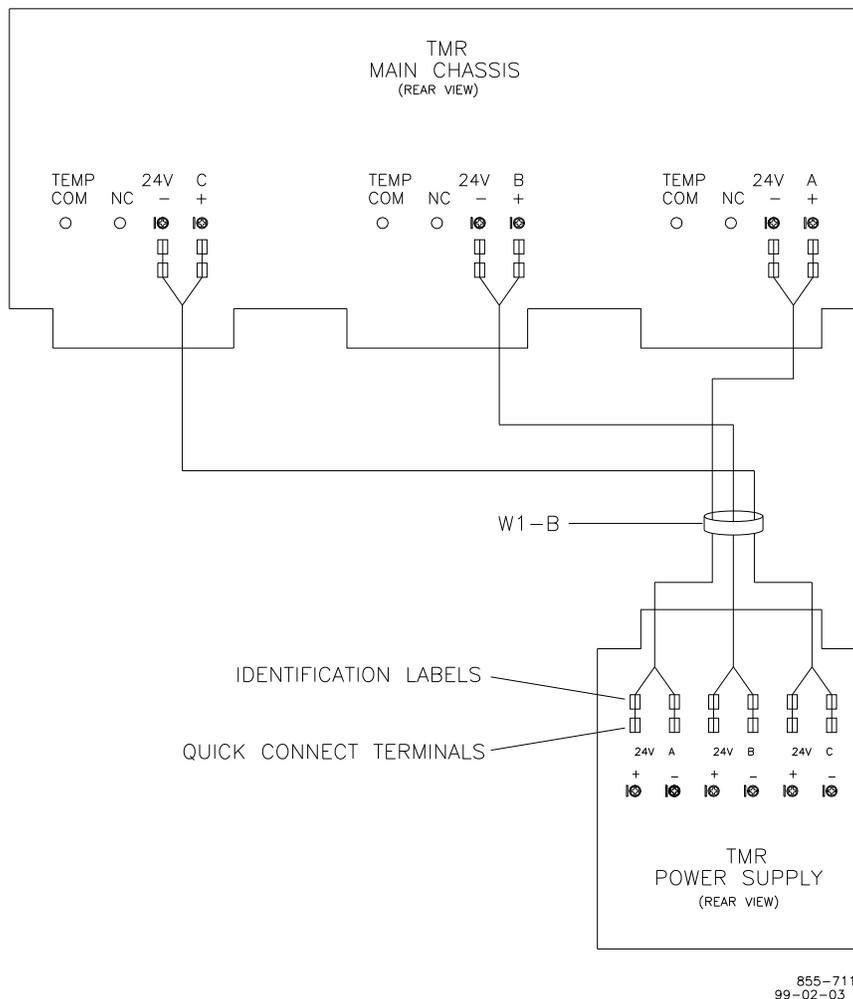

Figure 3-3. Chassis-to-Chassis Power Cable W1-B
3. Connect the W1-B cable between both the control and power chassis. Refer to Figure 3-3. Quick connect terminals allow for easy cable installation.